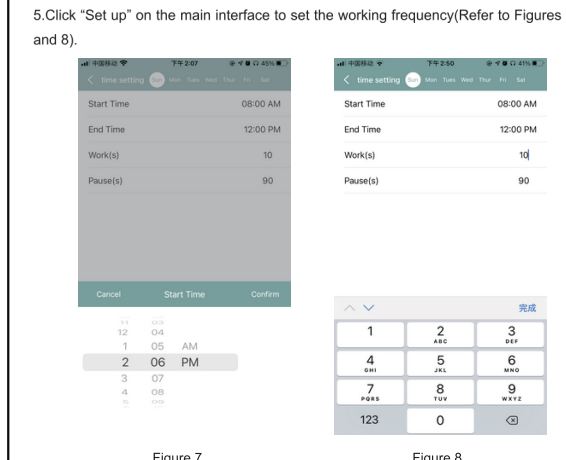

Figure 7, Figure 8
5. Click "Set up" on the main interface to set the working frequency (Refer to Figures 7 and 8).